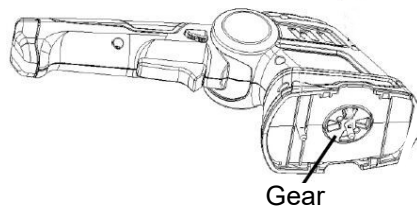

Fig. 2
2. Once you have removed the blade you will be able to see the toothed wheels of the gear unit (Fig. 2). Make sure that no dirt gets into the gear unit when you change the blade. To assemble, proceed in the reverse order.